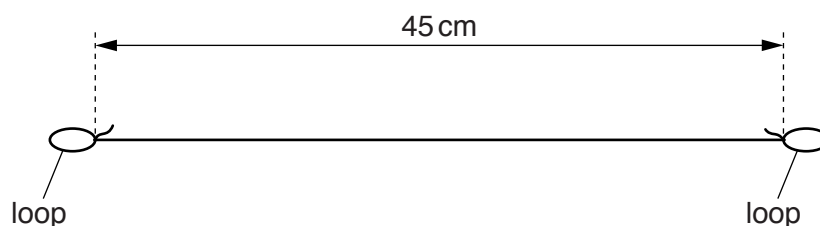

Fig. 2.1
- 1 The dimensions for each piece of string are shown in Fig. 2.1.